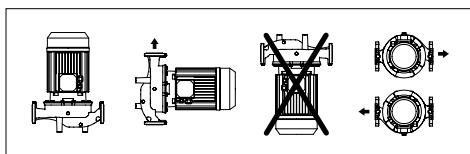

FIG 2: Installation of motor $\leq 7.5\text{ kW}$ 2 pole and $\leq 1.1\text{ kW}$ 4 pole
- The pumps can be installed on delivery or return pipes and in horizontal and vertical position, provided the motor is never placed below the pump to avoid water leakage into motor or bearings. (FIG 2) (Note that vertical installation is possible for $\leq 7.5\text{ kW}$ 2 Pole and $\leq 1.1\text{ kW}$ 4 pole units)